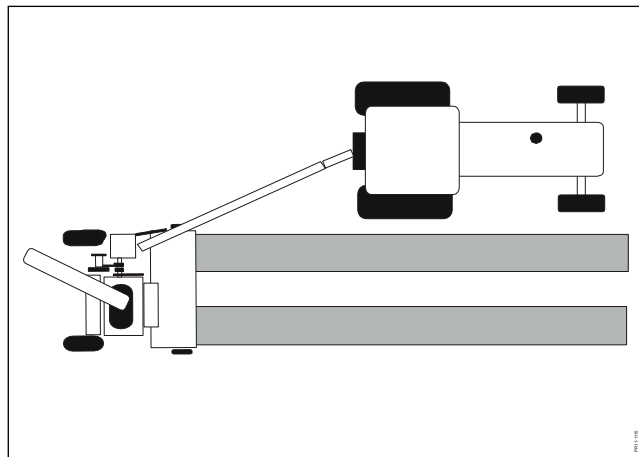

Fig. 6-9
- Fig. 6-9** 1) The chopper picks up grass beside the tractor, working offset. The machine can pick up wide single swaths and double swaths, which are very suitable for the chopper. A good driving technique is to load into a trailer on the offside of the forage harvester.